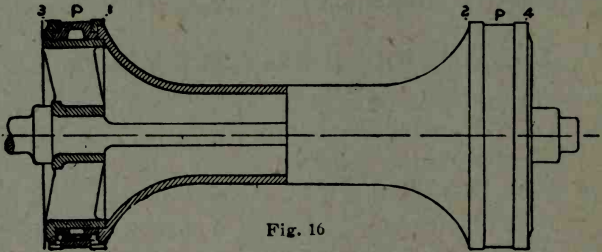

Fig. 16
This is a slide valve of cylindrical form which has many good qualities. It derives its name from its construction and consists of two pistons (P P), connected by a stem which is generally hollow (Fig. 16).
The pistons have two or more packing rings, which form the steam and exhaust edges of the valve. Packing rings (1 and 2) form the steam edges and rings (3 and 4) the exhaust edges (See Fig. 16). It permits of a greater port area and occupies less space than the (D) valve, this form of valve being encased
port while traveling over them. The closer the rings fit into the grooves (See Fig. 16) the better, but it is almost impossible to get the rings steam tight without having them stick in the grooves, and the more the sides of the rings wear, the greater will be the pressure under the rings, and therefore the greater the friction. Owing to the